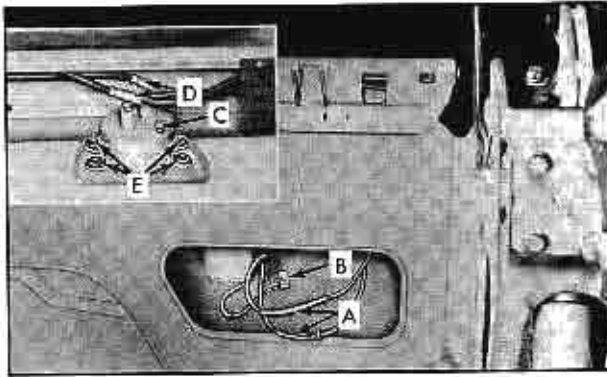

Fig. 3-89 Removal of Hydro-Electric Motor and Pump
4. From inside of body, disconnect motor wires at "A" and ground wire at "B". Fig. 3-89.
6. Remove filler cap at "C", inset of Fig. 3-89, to vent the reservoir, thus avoiding the possibility of forcing the fluid from disconnected lines.
**(72) Trouble Diagnosis****a. Window and Seat Electrical Circuits**